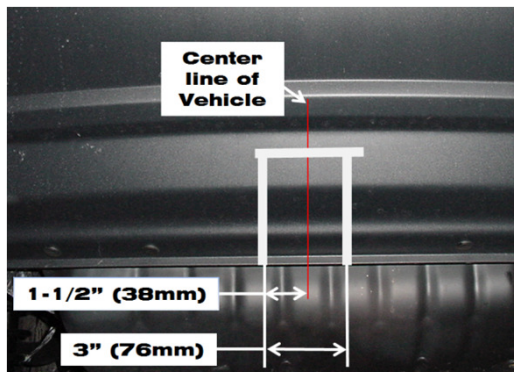
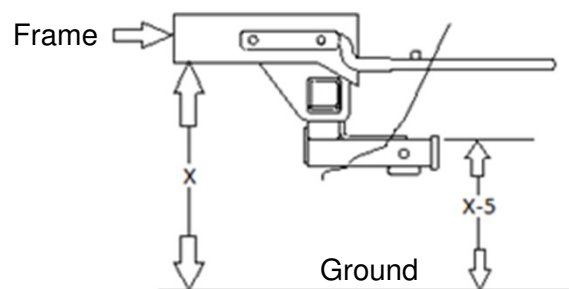

Figure 3
Figure 4
1. If vehicle has **optional tow hook** see Note 1. above. For **Compass Rallye** see Note 2 and Figure 2. **Check with vehicle owner.** For **2011 and later Jeep Patriot and Compass models.** Fascia trimming is required for hitch installation. Obtain vehicle owners approval before cutting. See Figure 3 and figure 4 for fascia trimming diagrams.
** 2011 model has 2" vertical fascia trim (measured from the bottom of the fascia lip). Mark fascia with non-permanent marker. Re-confirm fascia cut height by using figure 4 procedure and mark height from ground on fascia. Cut the lower of the two marks.